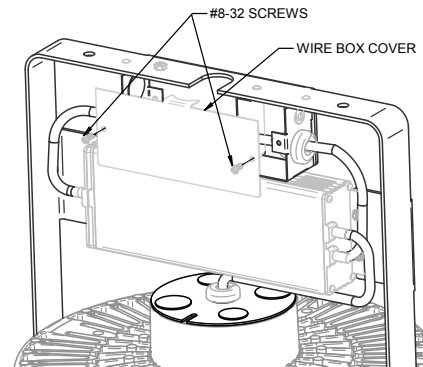

Figure 5
1. Remove wire box cover by removing (2) 8-32 screws. (Figure 5)
**INSTALLING HOOK MOUNT (See Figures 5 & 6):**
2. Insert end of Cord through Hook (A). Supply Cord is to be rated for a minimum of 90OC 16/3 SOW-A.